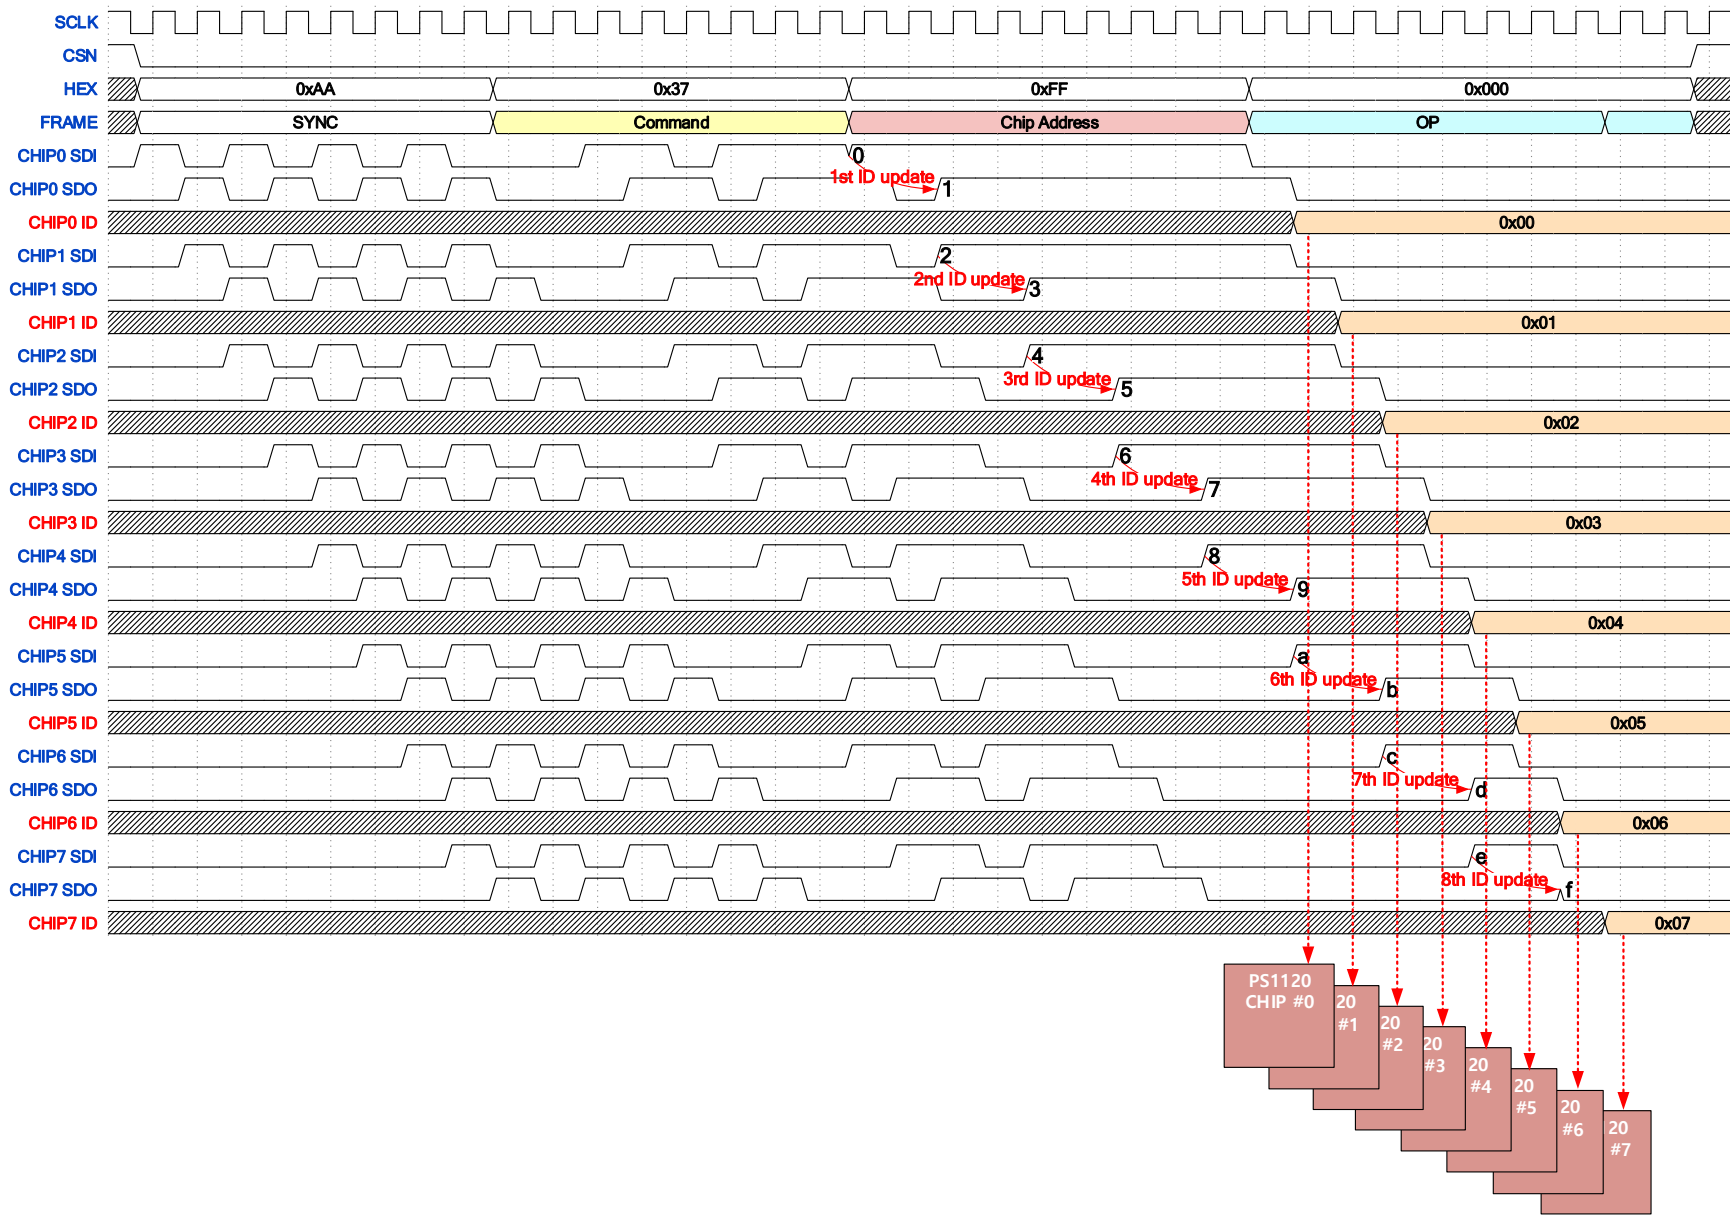

Figure 23. Assignment CHIP ID 0~7 of eight PS1120
Looking at the framing, the sync field sends 0xAA, the command field sends 0x37 and chip address field sends 0xFF to execute the chip ID assignment command. Figure 23 shows eight PS1120 daisy-chained. The chip ID 0 ~ 7 assign during the operation (OP) cycle.
An operation (OP) cycle is required when executing the PS1120 command. Figure 23 shows eight PS1120 daisy-chained to execute the chip ID assignment command. The chip ID #0 ~ #7 assign during the operation cycle (OP).
As shown in figure 23, from chip ID #0 of PS1120 to chip ID #6 of PS1120 are assigned IDs within a 1-byte OP cycle. But in the case of chip ID #7 of PS1120, ID is assigned at the 9th clock edge of the OP cycle.